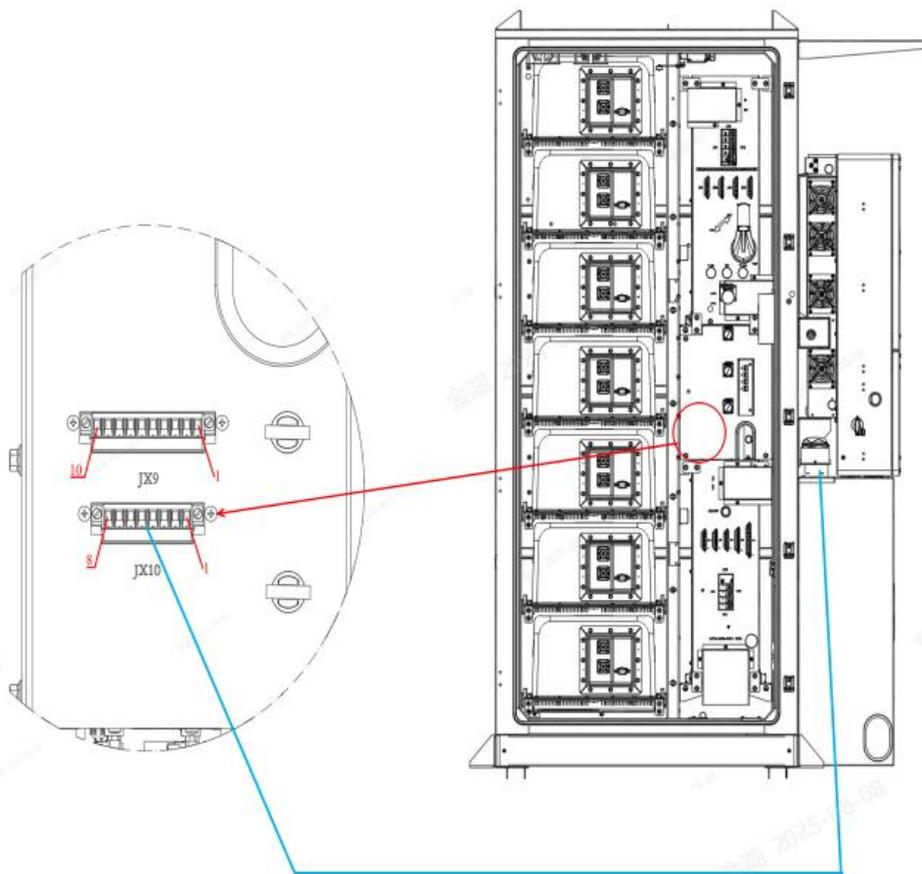

**Figure 5-13 Grounding cable connection diagram**
1. As shown in Figure 5-13, on the right is the grounding copper bar of the battery cabinet. The holes in the copper bar are M6. SolisStorage will provide two grounding cables. The cable label is: L071101-02170 Connect the two grounding cables from the left and right shells of the hybrid inverter to the grounding copper bar.